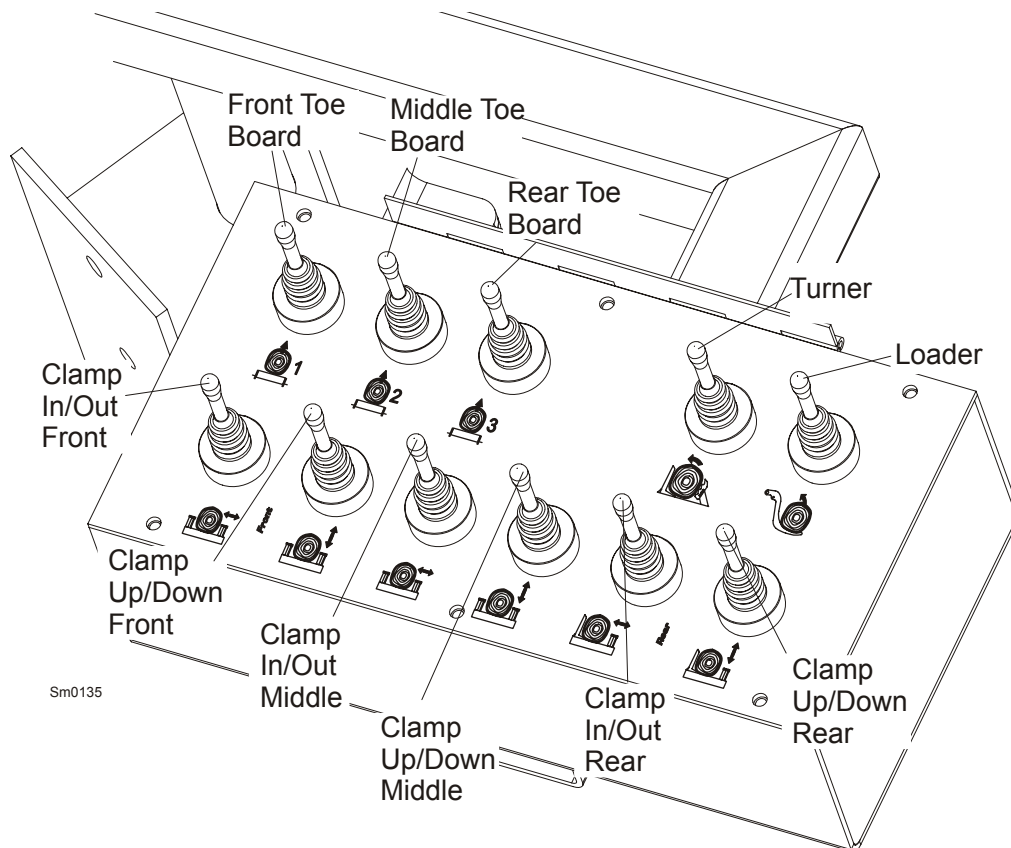

FIG. 2-6
**See Figure 2-6.** Sawmills with hydraulic control have eleven control levers to load, clamp, turn and level logs.